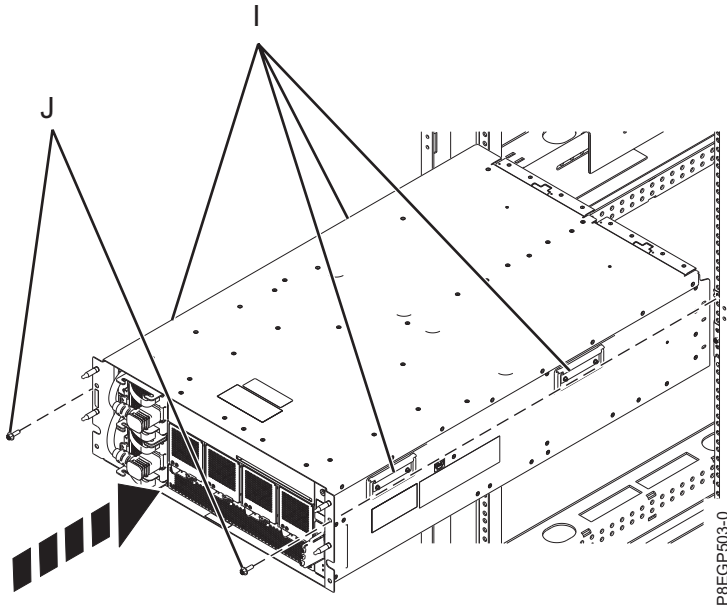

Figure 9. Installing the drawer into a rack
- Using three people, have two people hold onto the four handles **(I)**, as shown in Figure 9, and one person in front of the drawer to guide the drawer. Lift the drawer and position it over the front of the rails.
- Install the two M5 securing screws **(J)** through the drawer and into the nut clips on the left and right rails. See Figure 9.